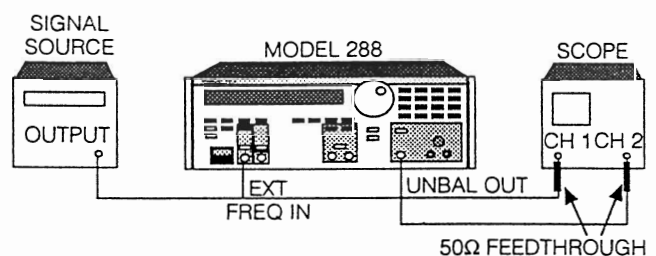

Figure 5-6. Adjust Phase Setup
- Connect the test equipment as shown in figure 5-6.